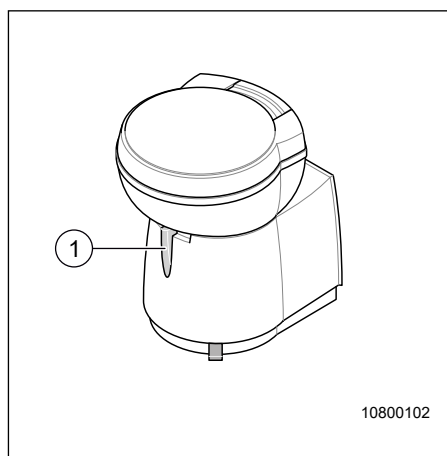

Fig. 68 Toilet flushing
- To flush, use the lever (Fig. 68, Pos 1) on the underside of the toilet.